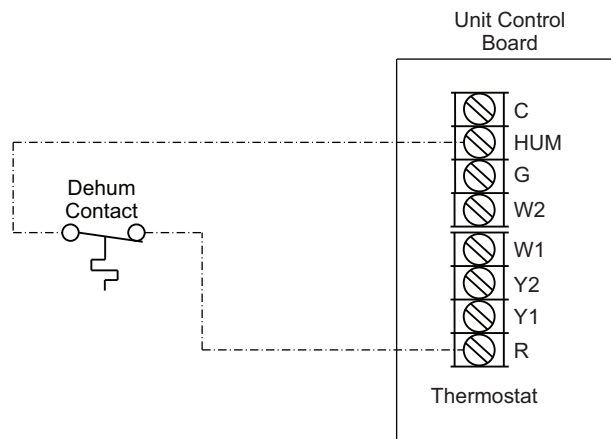

Fig. 45 — Humidistat Connections to UCB (Electromechanical Units)
5. For electromechanical controller units connect one of the leads from the 2-conductor cable to the HUM terminal on the UCB (Unit Control Board). Connect the other lead to the R terminal on the UCB. See Fig. 45.